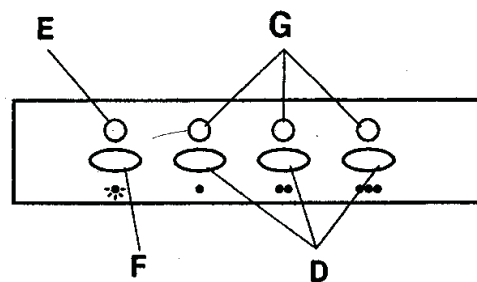

Fig.5
- 3 position switch controls the motor (1st, 2nd, and 3rd speed) (Figure 5, Ref. D).
- Lighting control lamp. Fig. 5. Ref. E.
- Motor controls lamps. Fig. 5, Ref. G.
- Light switch (Figure 5, Ref. F).